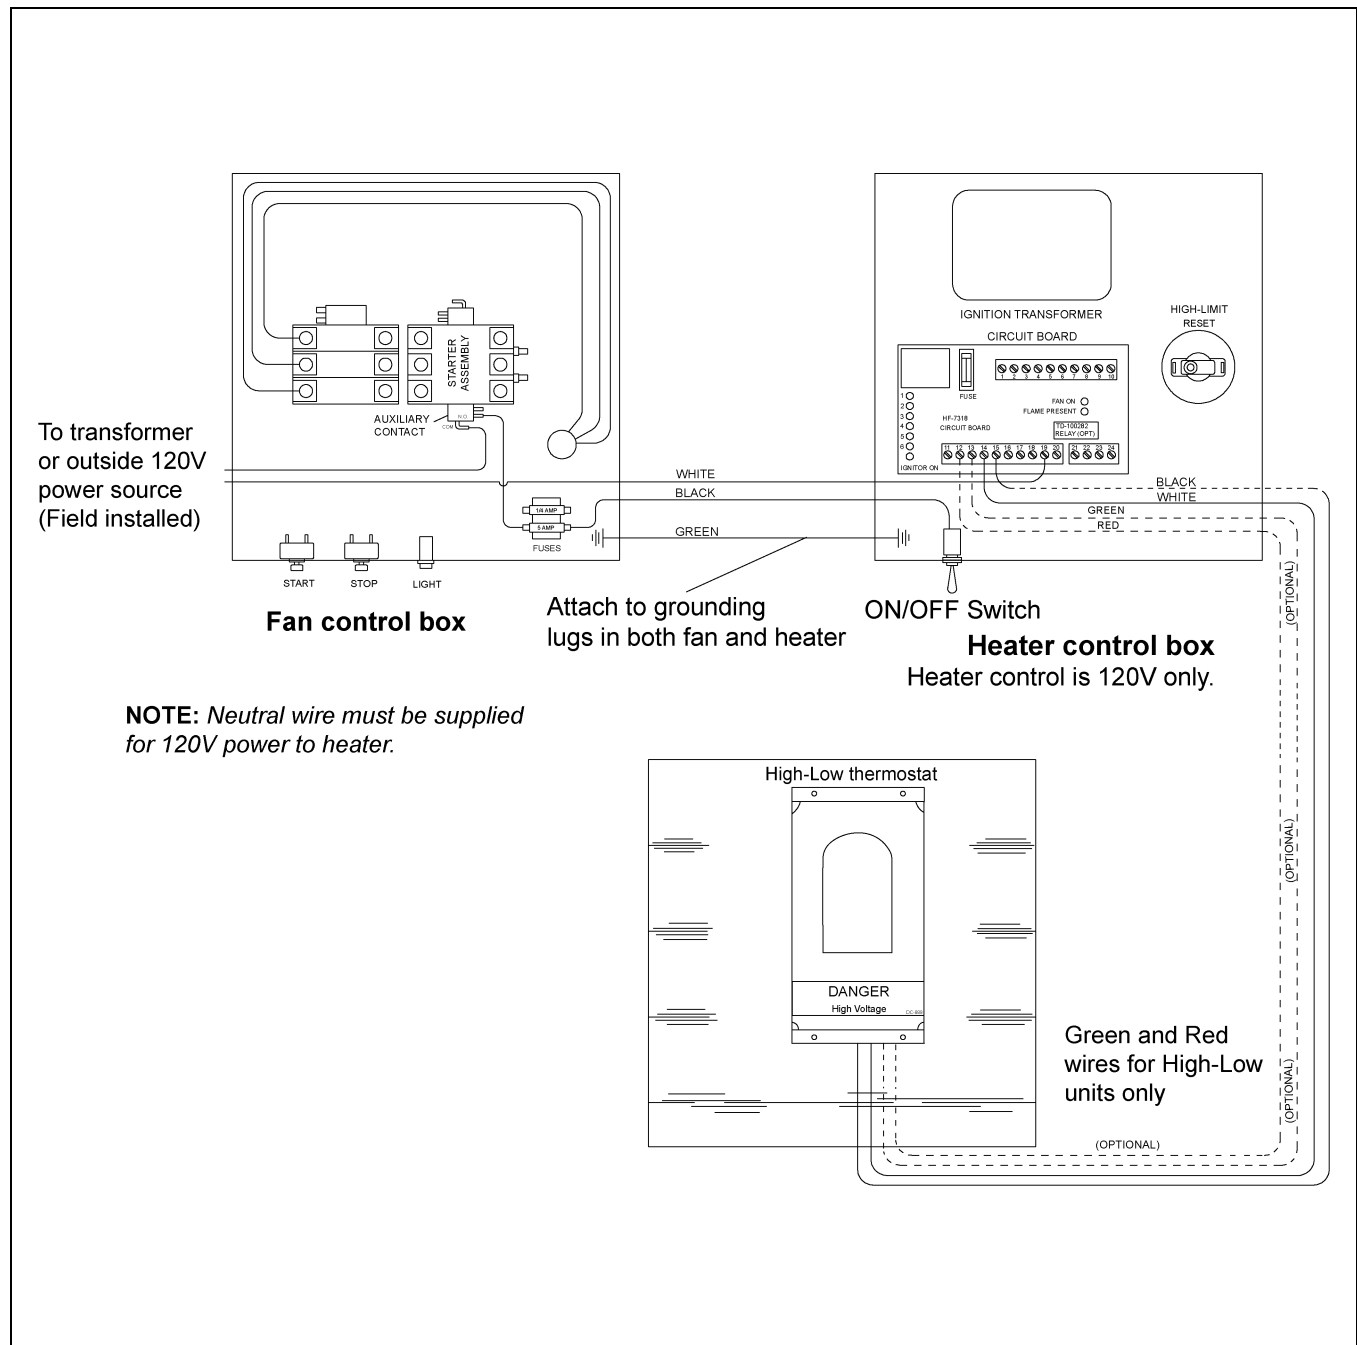

Figure 3B 460 Volt Fan Control Box
2. Make field connections of wires in fan box as shown in *Figure 3B*. 110V power supply or 0.5 KVA 460V to 110V transformer must be used to supply power for heater.
3. Connect deluxe thermostat control (optional) in heater box as shown in *Figure 3B*.